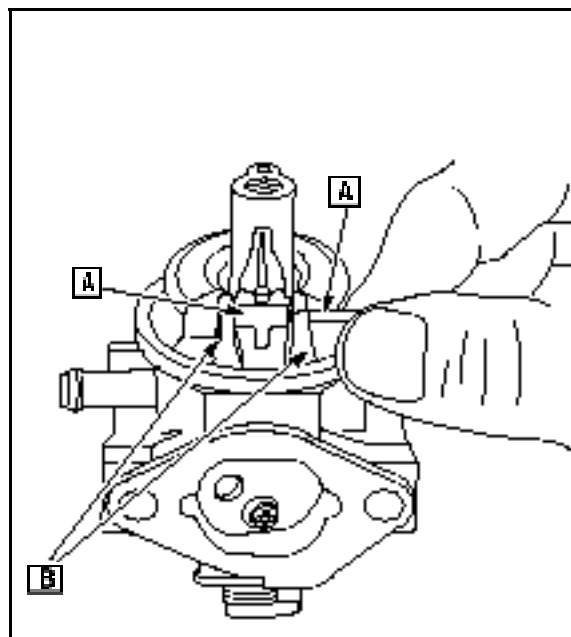

Fig. 67
17. Insert the float hinge pin (A) through the float hinge and both hinge pin posts ([B] Fig. 67). Center the hinge pin in the hinge pin posts.